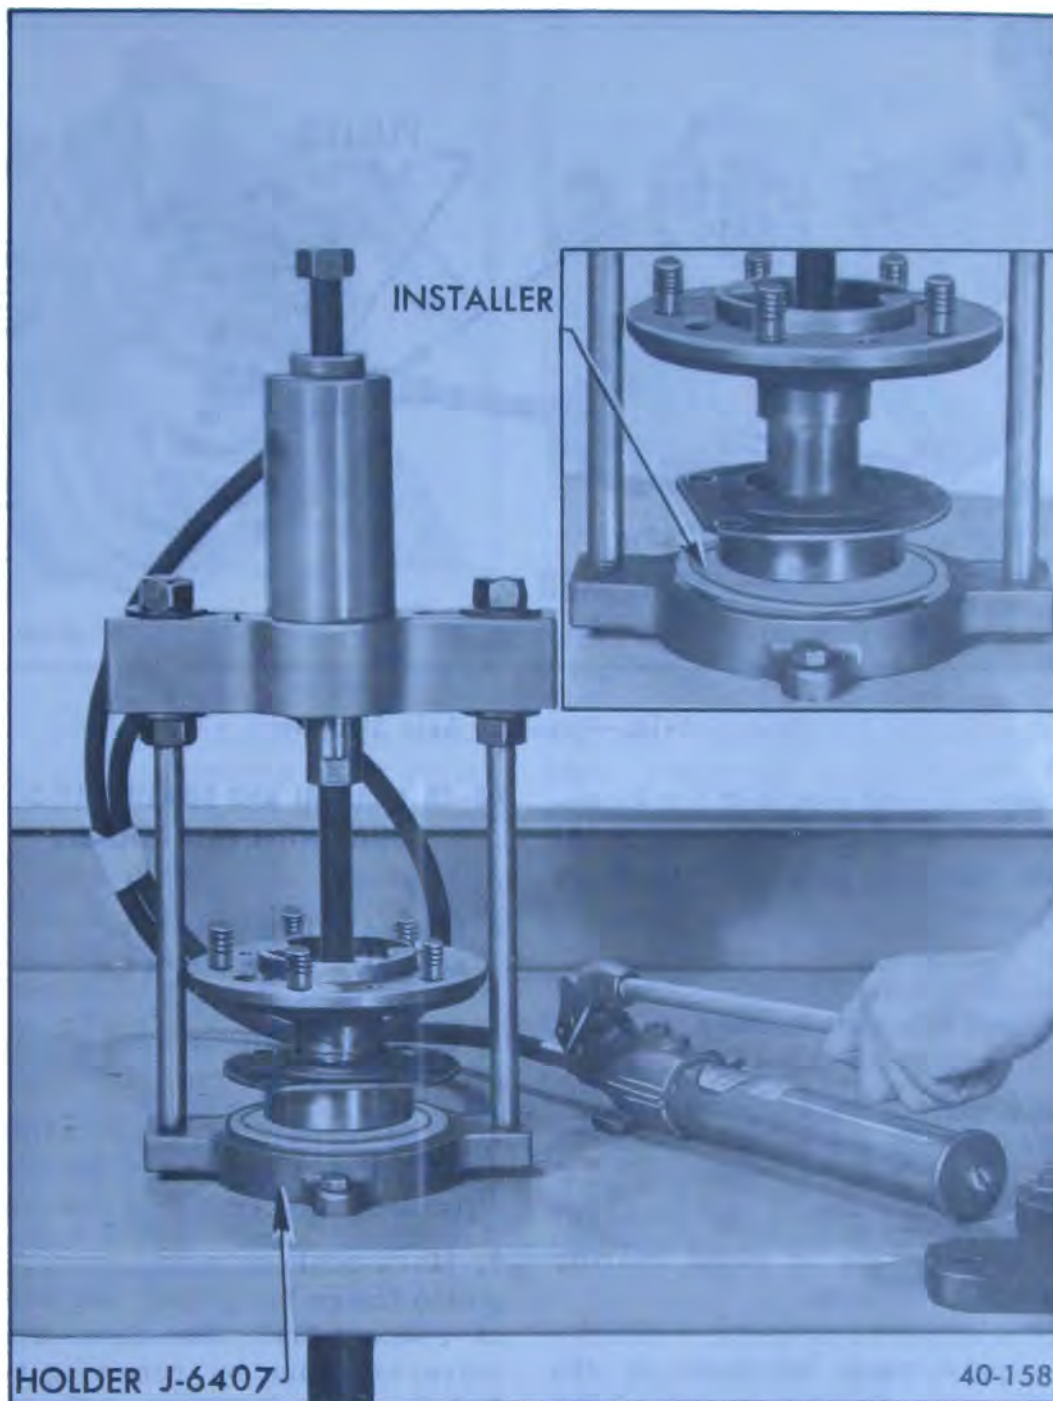

Figure 40-144—Installing Axle Shaft Bearing
3. Install bearing retainer plate. Press new bearing against shoulder on axle shaft using Installer J-9739 either in a press or in a set-up using Ram and Yoke Assembly and Holder J-6407 shown in Figure 40-144.